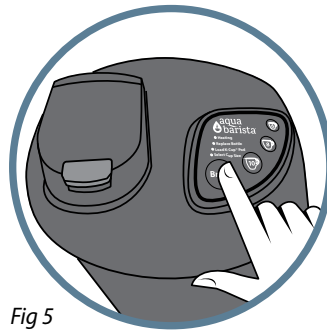

Fig 5
5. If Brew light is solid, press button and coffee will brew. If dispense light is not lit, water has not reached optimum brewing temperature. Wait for the light indicator to turn solid, and then press button to brew (Fig 5).